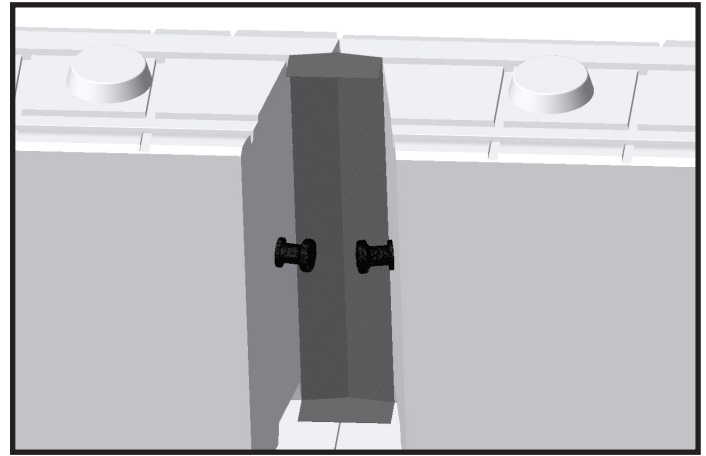

Figure 8: Filter Fabric
- Add filter fabric at each vertical joint (Figure 8).
- Add filter fabric of each vertical joint (Figure 8).
- Add filter fabric to each vertical joint (Figure 8).